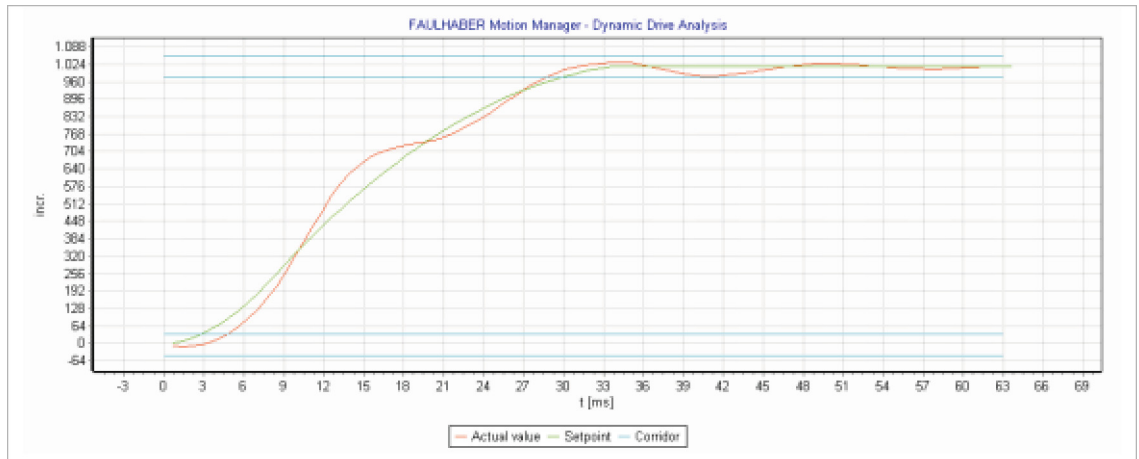

Fig. 6: Expected tuning results with velocity feedforward control
✎ The following tuning results are expected (see Fig. 6):
c) Set the current feedforward control slider (8) to 80...100%.
- ✎ The following tuning results are expected (see Fig. 6):